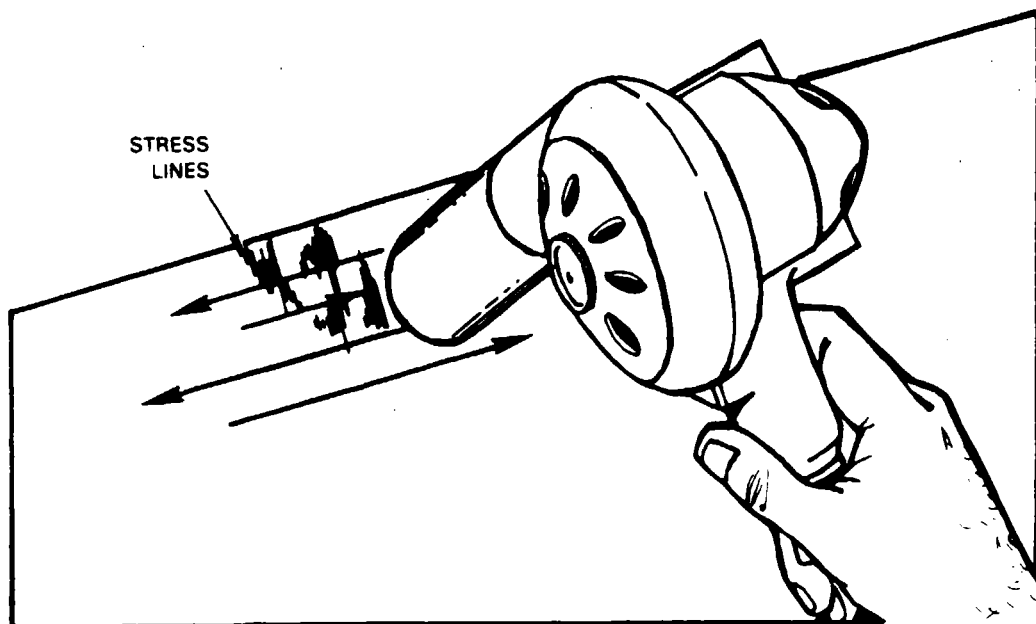

Figure 4-33. Repair of Stress Lines
- f. Stress Lines: (Refer to Figure 4-33.)